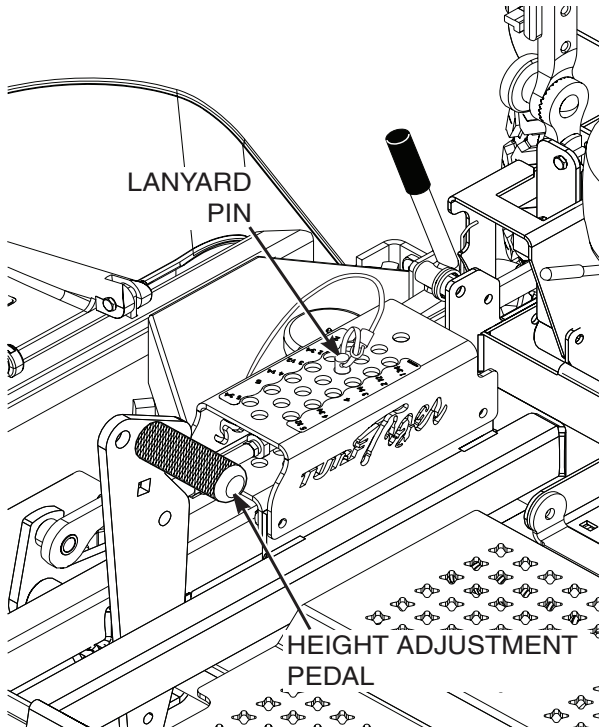
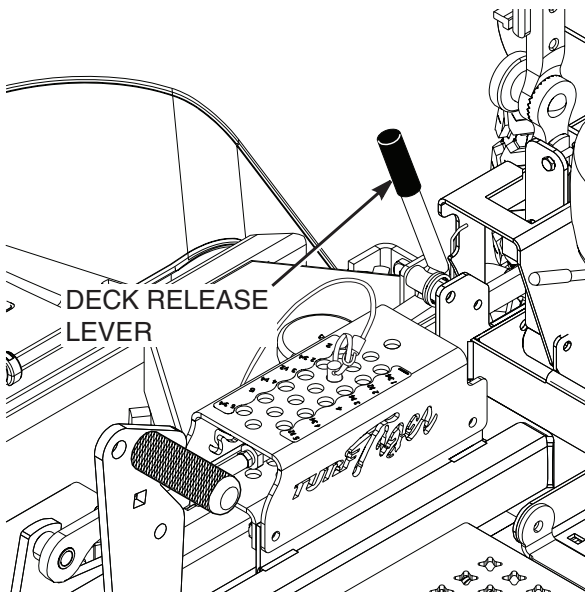

Figure 4-8. Adjusting Cutting Height
Figure 4-9. Deck Release Lever
2. Push the cutting height adjustment foot pedal all the way forward using your right foot until it locks in place. See Figure 4-8.
3. Insert the lanyard pin into the cutting height index at the desired cutting height. Push forward on the deck lift foot lever, hold in place and pull back on the deck release lever. See Figure 4-9. Slowly release the foot pedal. A deck height decal is located on the cutting height index as an aid in adjusting the deck to the desired height. See Figure 4-8.